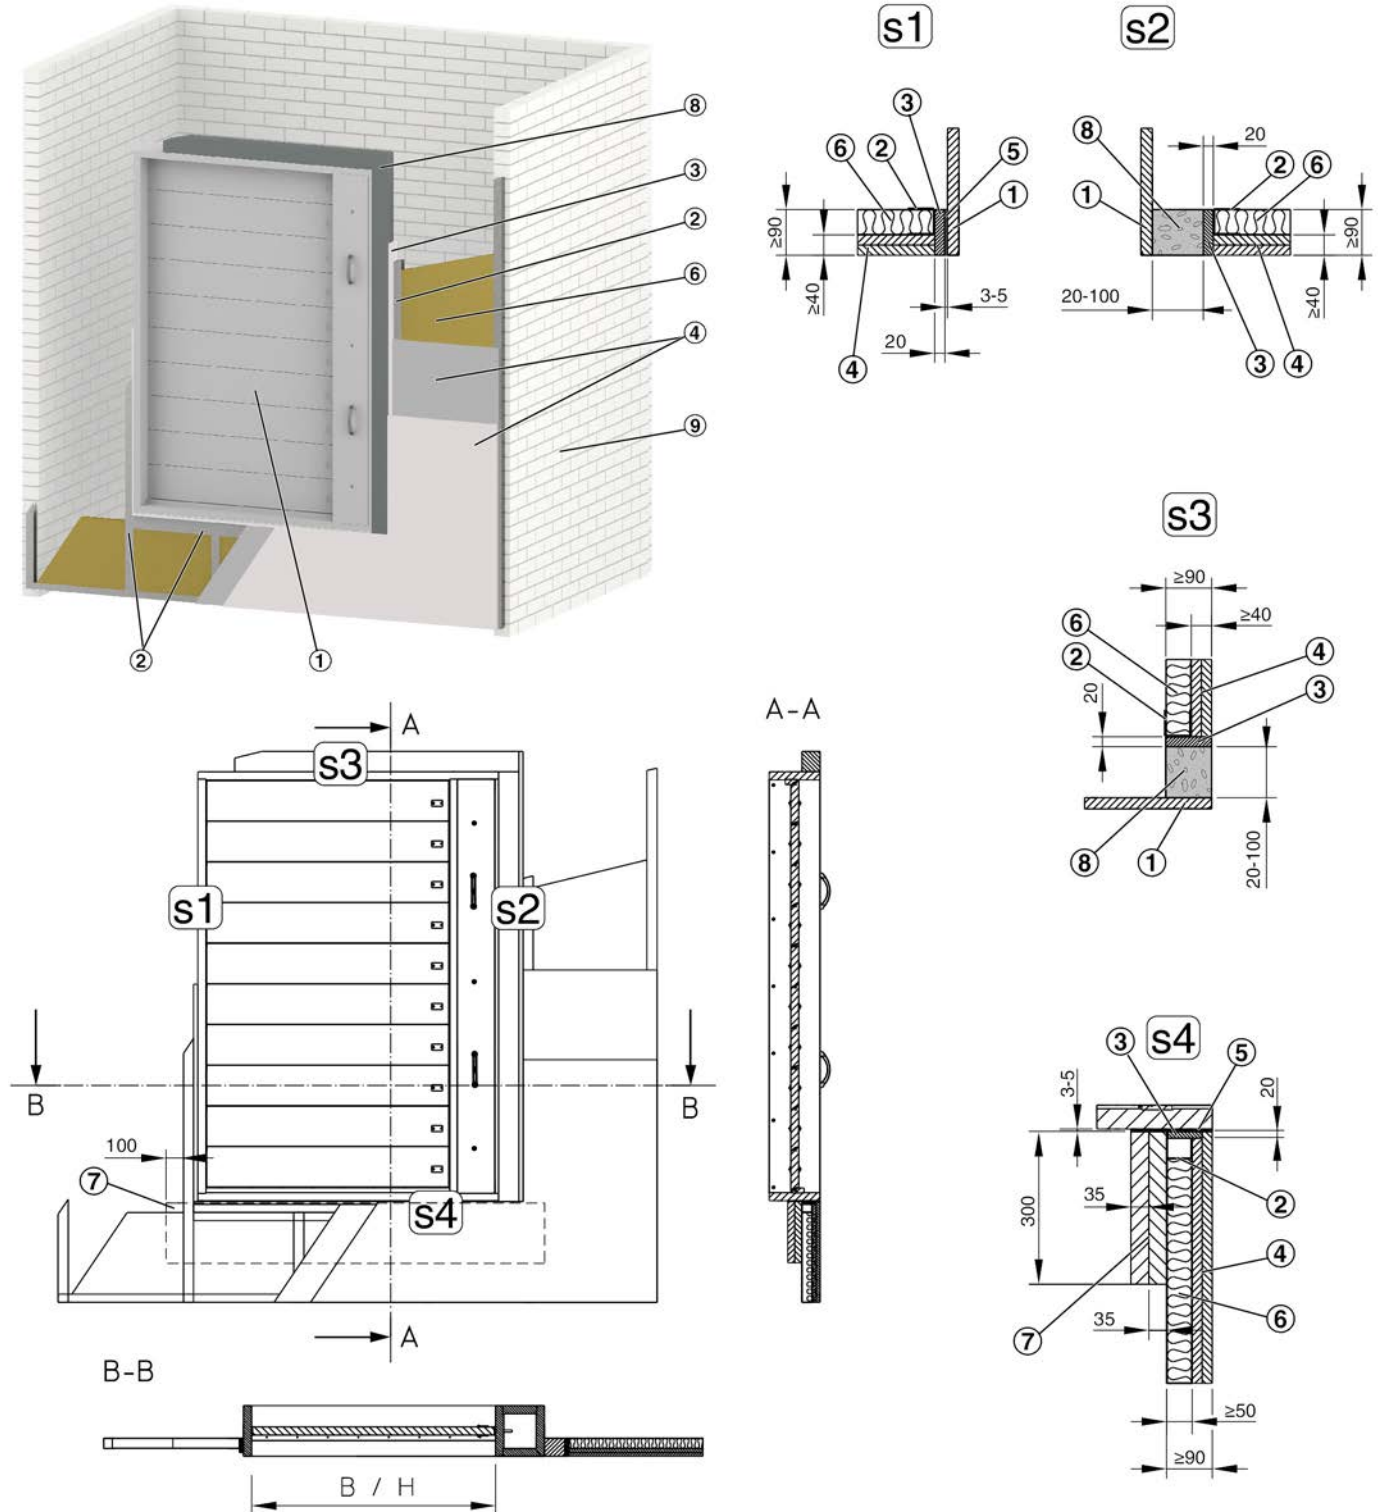

Fig. 26: Installation in lightweight shaft wall
2. ▶ Create trim panels ( Fig. 26 /3).
3. ▶ Create reinforcing board ( Fig. 26 /7):